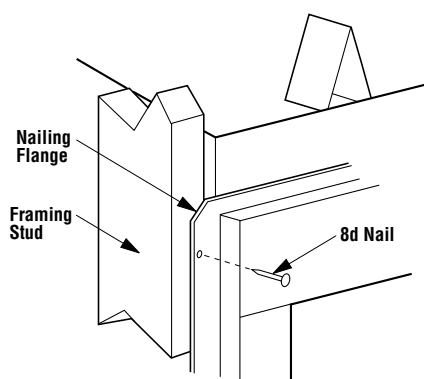

Figure 18
Step 4. The fireplace should be secured to the side framing members using the nailing flange. Use 8d nails (Figure 18).